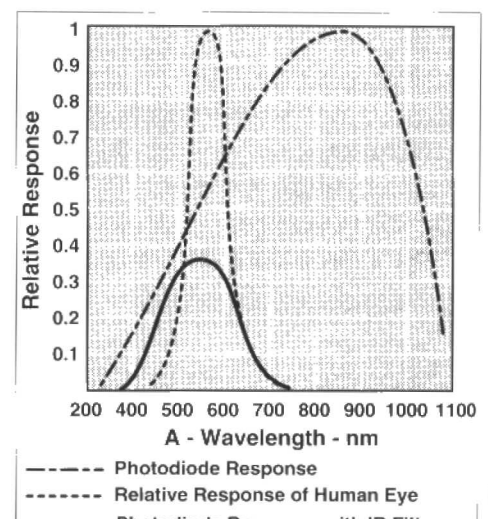

Fig. 4.
Fig. 4. Oscillator voltages. There is little to say about them. A 20-MHz scope will normally indicate a smaller peak-to-peak level. Oscillator levels of a few volts are sufficient to make the processor work correctly.
The output level of the TSL220 is compatible with all TTL and CMOS inputs. When a TTL input is driven, it is recommended to use a 3.3 kΩ resistor between pin 2 and earth. Maximum sensitivity of the sensor is at 850 nm—see **Fig. 4**. In many applications, it is a requirement that the sensor behaves like the human eye, the
sensitivity of which is also shown in **Fig. 4**. When an infra-red (IR) filter is placed in front of the sensor, the sensitivity characteristic of the combination is similar to that of the human eye. A suitable filter is the Type CM500 from Hoya.